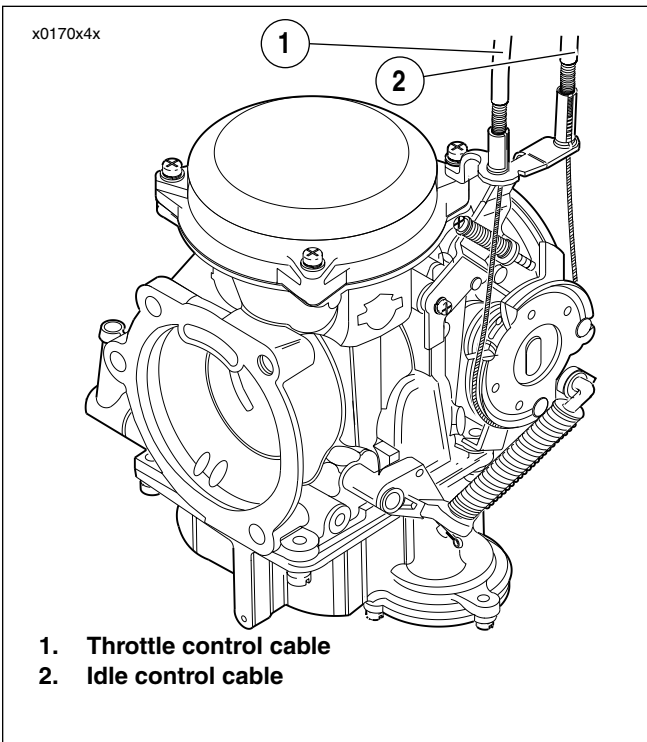

Figure 4-6. Throttle Cables
3. See Figure 4-6. Disconnect fuel hose and throttle cables from carburetor.
11. See Figure 4-6. Install throttle cables and fuel hose onto carburetor.